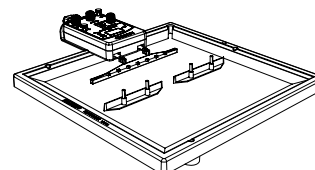

Figure 3.2: Position of Long Barriers
- Arrange the two long barriers in the water so that they are about 3 cm apart and parallel to the plane wave dipper as shown in Figure 3.2. Set them so that they are about 5 cm from the plane wave dipper.